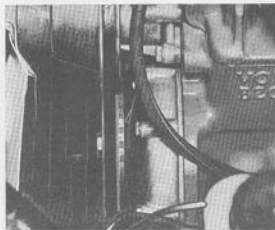

Fig. 3-106. Graduation for ignition setting
- Clean the pulley so that the graduation marks can be seen, see Fig. 3-106.